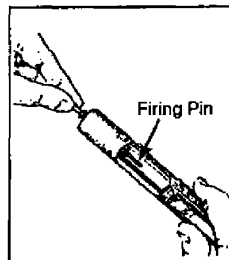

Figure 071-311-2025-29. Placing the firing pin
g. Put the firing pin retaining pin in the bolt carrier to seat it (figure 071-311-2025-30).